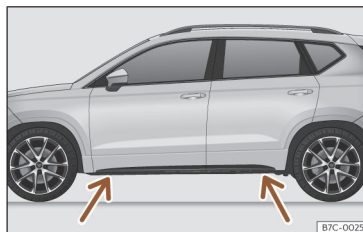

Fig. 210 Jack position points.
- Look on the strut for the mark of the jack support point (sunken area) closest to the wheel to be changed >>> **Fig. 210**.